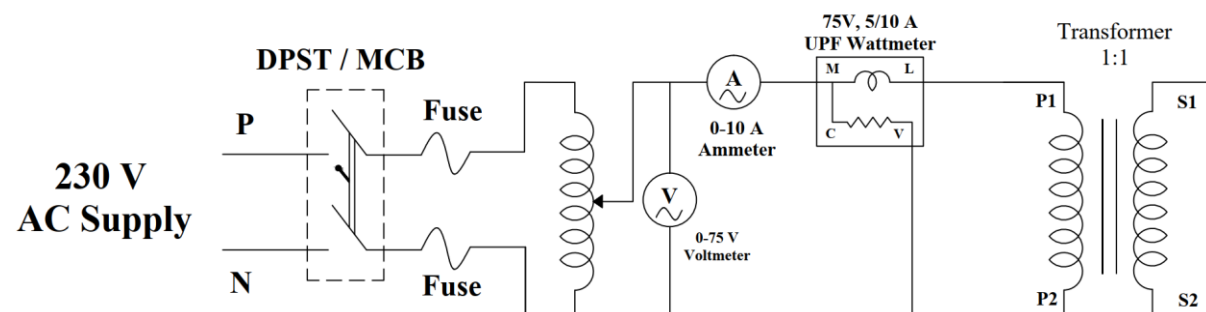

Fig 1.2. Short Circuit Test
1. Make the connections as shown in the circuit diagram as in Fig 1.2.